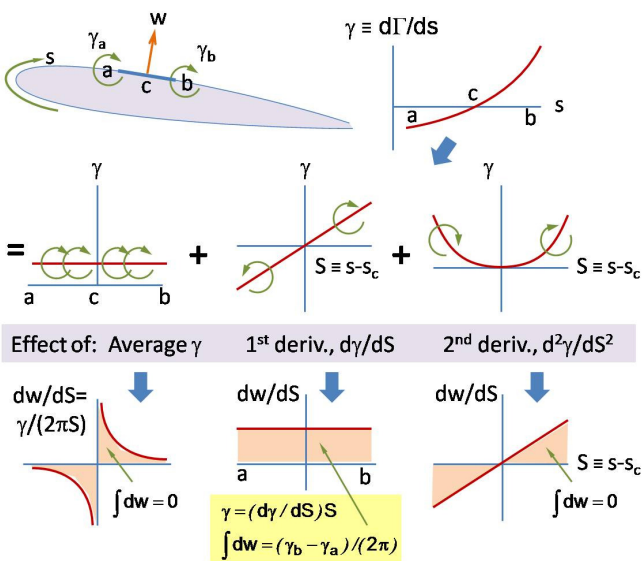

Figure 3.2-1 Self-induced Normal Velocity Study
At the center of panel (a-b) in Figure 3.2-1, we now compute the panel-self-induced normal velocity. The simplest study treats the panel as flat, but it can be shown that a fixed radius of curvature will have no effect. First, we characterize the local non-dimensional vortex density ( $G = \square/v_o$ ) as parabolic with non-dimensional distance (S) from the panel center.  $G(S)$  is then distilled to three isolated components representing the average, first derivative, and second derivative. By inspection, the effects of the average cancel. Also, paying careful attention to sign, we discover that the effects of the 2nd-derivative also cancel, whereby we need concern ourselves only with the 1st derivative ( $dG/dS$ ), given by  $[(G_b - G_a)/(S_b - S_a)]$ .